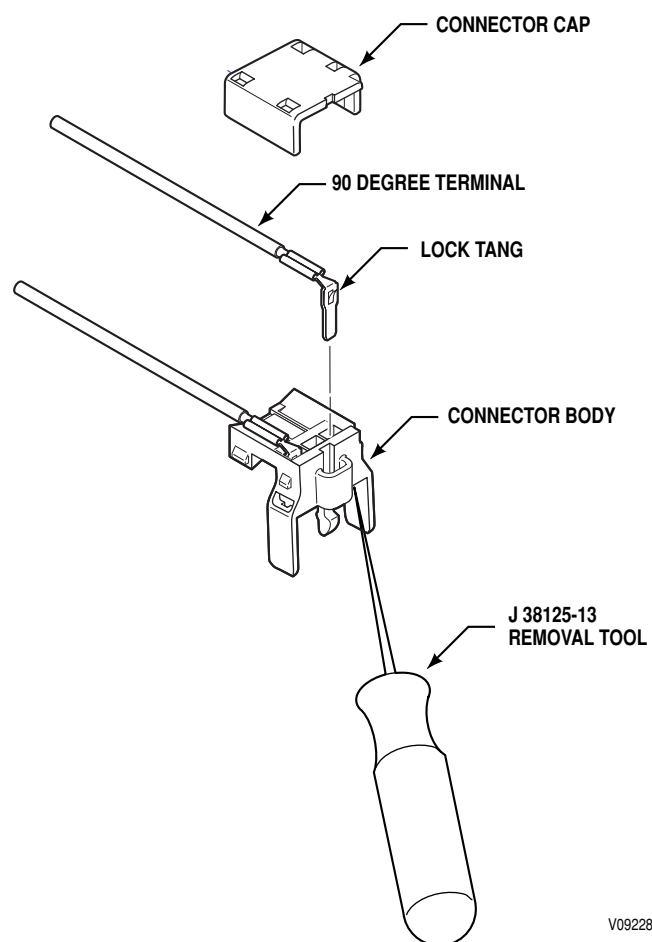

Figure E-17. AFL Automotive 2-Way, 90 Degrees Solenoid Connector
1. Separate the 2-way connector from the solenoid (Figure E-17).